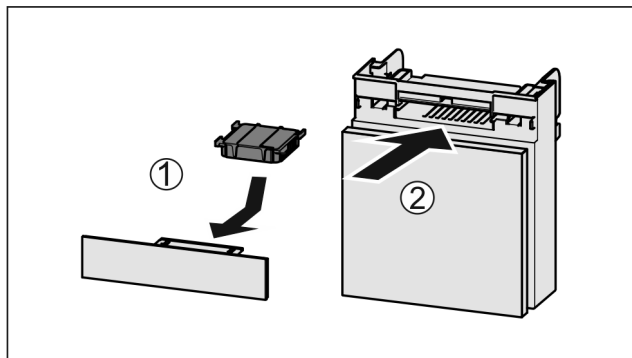

Fig. 53
- ▶ Insert the carbon filter as shown in the diagram Fig. 53 (1).
- ▶ Push the compartment in Fig. 53 (2).